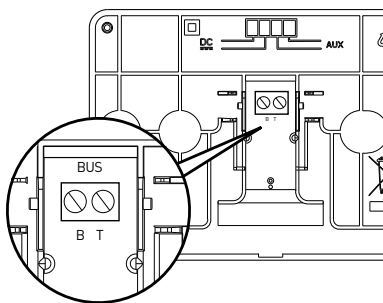

fig. 1
- connect the pair of wires to the connector (fig. 1);